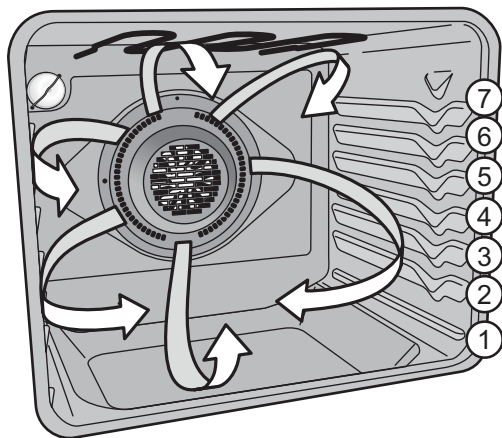

Figure 16: Air movement using convection
- For best results when using a single oven rack, place rack in position 4 or 5 (See Figure 16). When using two oven racks, place in positions 2 and 5. When using three oven racks, place in positions 2, 4, and 7 (use offset rack only in position 7).